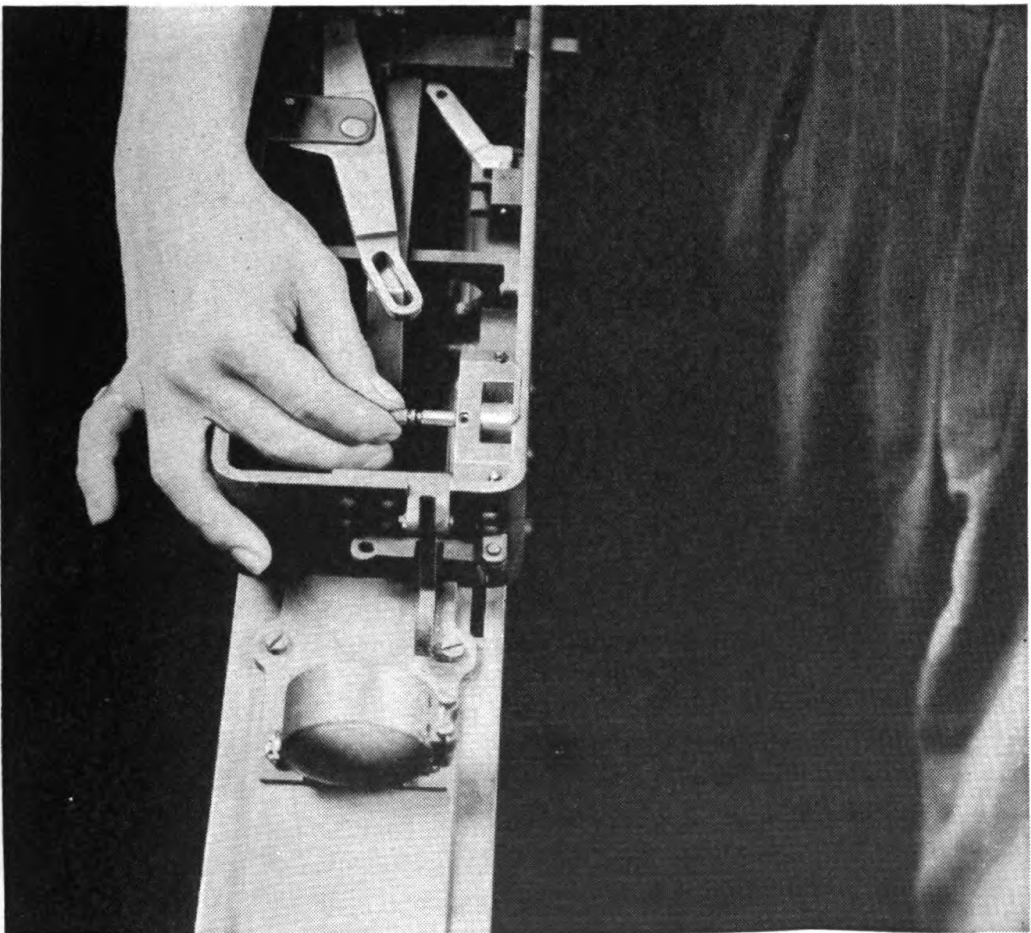

FIGURE 26.—Removing feed lever pin.
(5) Pull the feed lever pin out of the feed lever and remove (fig. 26).